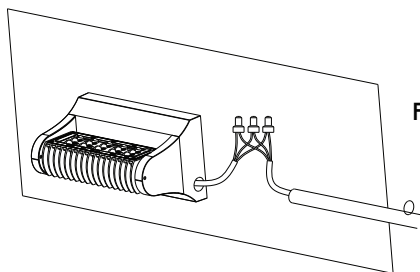

Figure 6
2. Affix the fixture to the bracket and tighten screws at the bottom to secure. Wire the fixture from the side and secure the ends using UL listed nuts and connectors. (Figure 6)